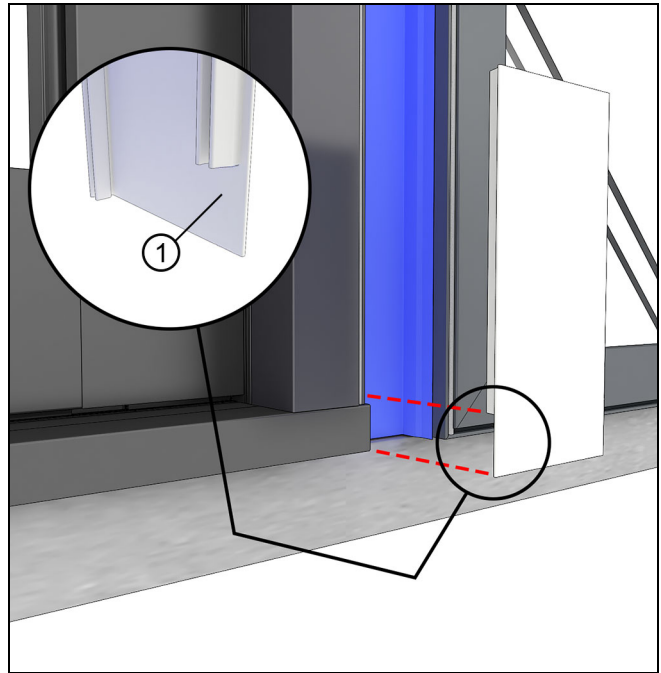

Figure 5
4. **Multi-slide to Direct Glaze Configurations:** you will need to remove approximately 1" (25) from one leg of the mull cover on the sill end of the door side. Use a grinder or oscillating tool to remove the material shown in Figure 5.